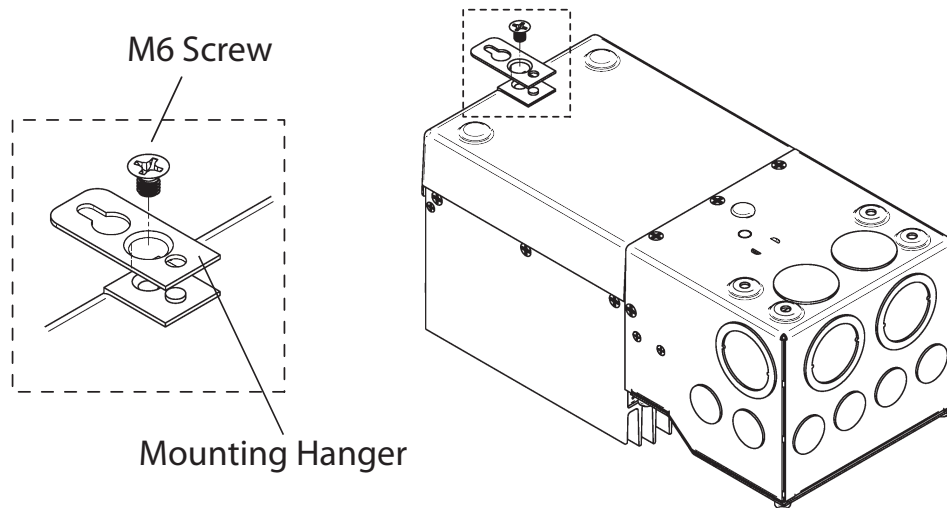

Figure 3-2. Attaching the mounting hanger
1. Attach the mounting hanger to the bottom of the TriStar MPPT 150V with the M6 screw provided as shown in figure 3-2.